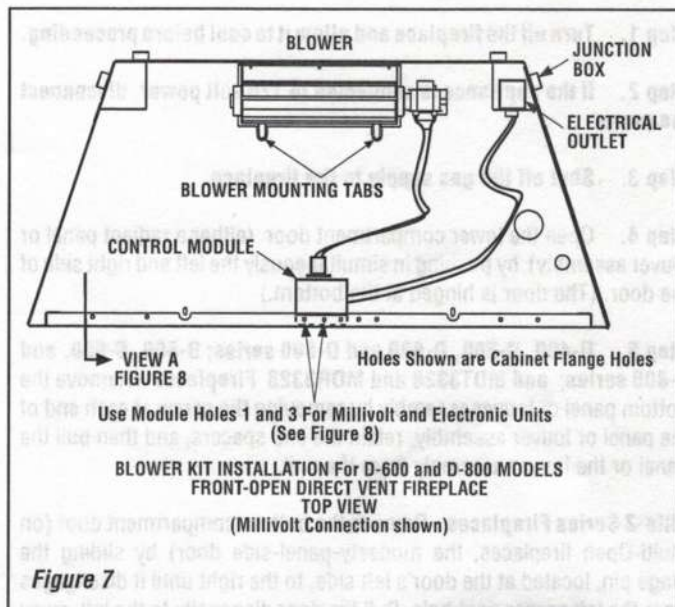

Figure 7
- f - see **Figure 7** for D-600 and 800 series units;